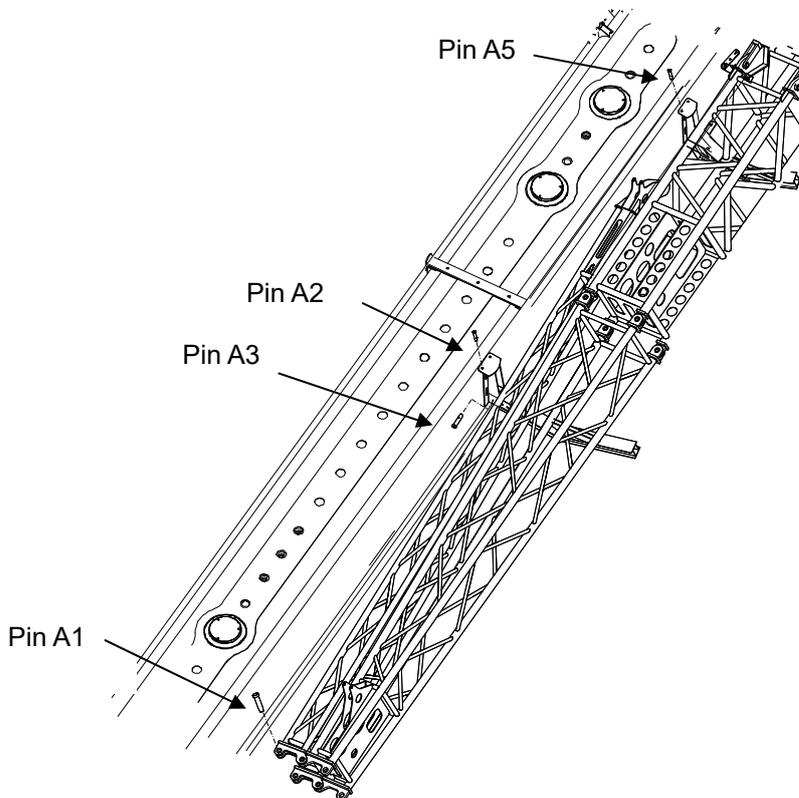

Figure 5-5 Pins A1, A2, A3 and A5 removal
- g) Remove the pin A1 of the tail bracket, the pins A2 and A3 of the intermediate bracket II and the pin A5 of the intermediate bracket I. Refer to Figure 5-5.